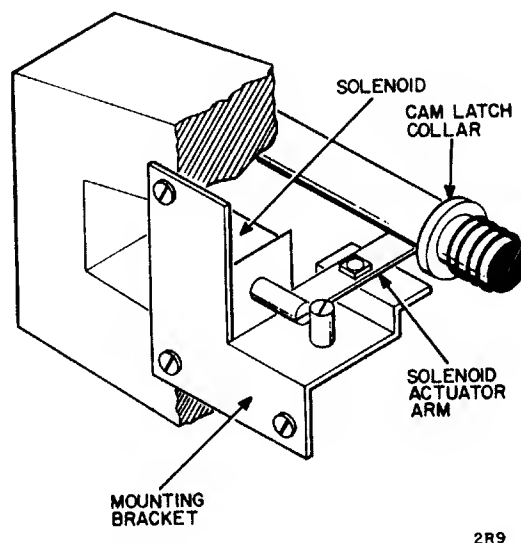

Figure 6-13. Cam Latch Solenoid Adjustment
3. Push the cam latch solenoid (Figure 6-13) to the fully energized position.